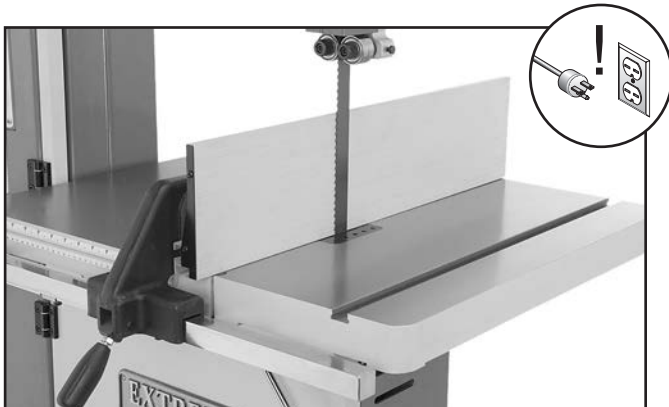

Figure 40. Fence against the blade.
3. Position the fence against the left side of the blade so that it is touching the blade without applying pressure to it, as shown in Figure 40, then lock the fence in place.